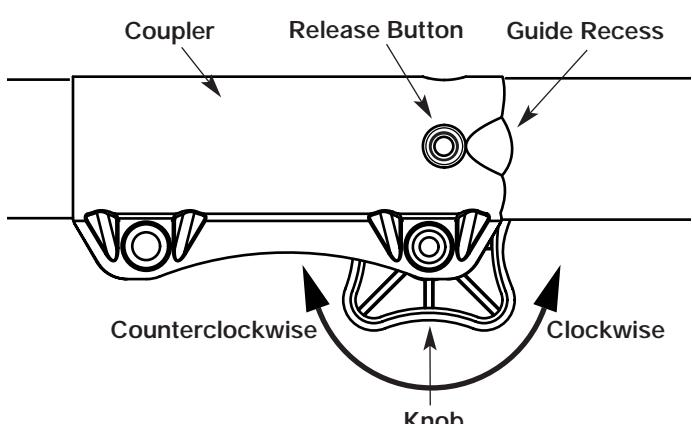

Fig. 5
- Turn the knob counterclockwise to loosen (Fig. 5).
- Press and hold the release button (Fig. 5).
- Turn knob counterclockwise to loosen (Fig. 5).
**NOTE:** Aligning the release button with the guide recess will help installation (Fig. 5).